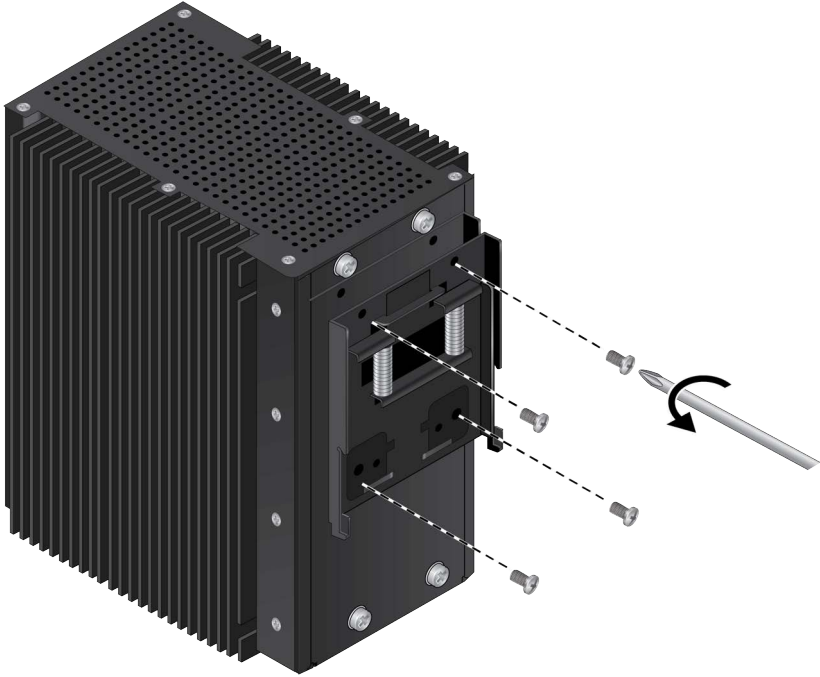

Figure 24. Removing the DIN Rail Bracket from the Switch
2. With a cross-head screwdriver, remove the four screws holding the pre-installed DIN rail bracket, and remove the bracket. Refer to Figure 24 on page 81.